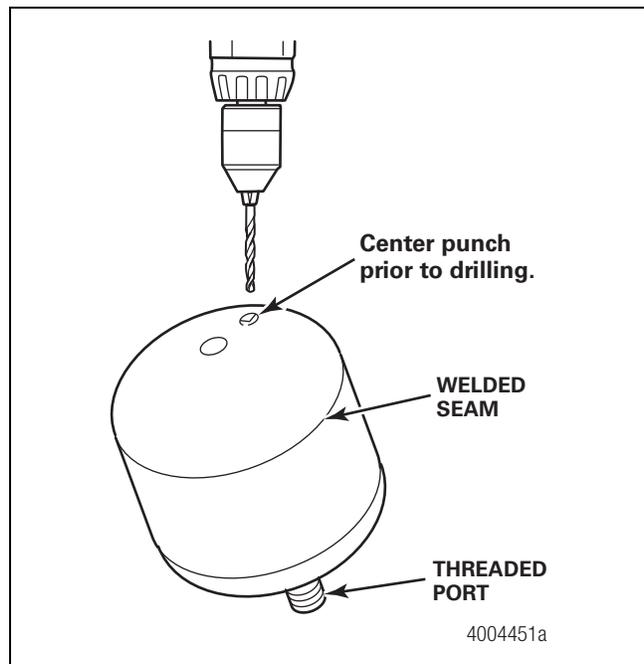

Figure 4.16
- Use the following steps to depressurize the accumulator and disable the internal pressure chamber before disposing of the accumulators. Figure 4.16.
- Use a 3 mm or 1/8-inch drill bit to slowly and carefully drill approximately 1/2-inch (12.7 mm) into the accumulator. Figure 4.16.